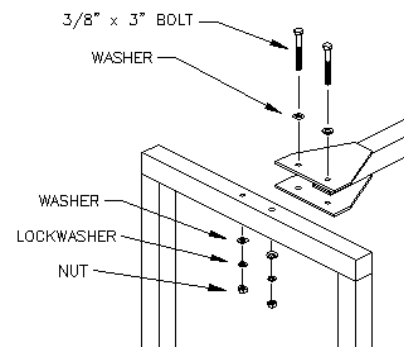

Figure 3 – Cross Beam Assembly
1. Bolt the cross beams to the end frames as shown in Figure 3.